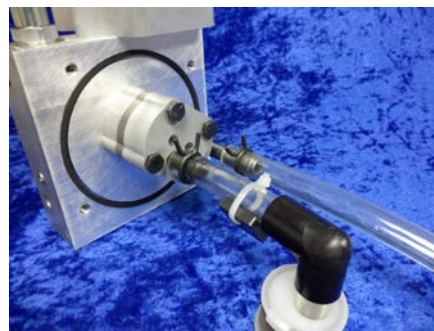

Figure 23 Showing the O-ring and the tubes with spring clamps
- and move it over the black fitting. Make sure the return tube is similarly installed & pointed to the bottom of the tank. (See Figure 23)
- 18) Check the O-Ring (part #3510000266) installed in the port plate recess and make certain it sits inside the recess. (See Figure 23)